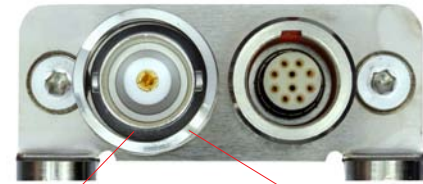

Fig. 29 Multi corrugated spring ring
- ➡ Connect the signal ground (GND) with the housing ground (PE), e.g. by clamping the supplied multi corrugated spring ring between controller housing and BNC cap (or BNC connector), see Fig. 29, see Fig. 30, see Fig. 31.